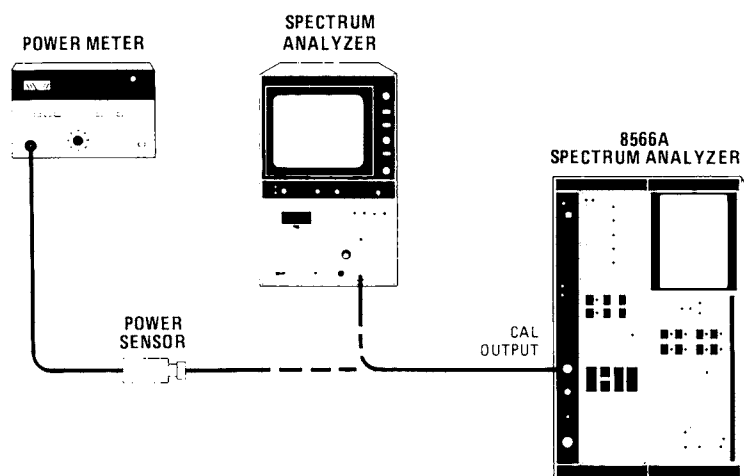
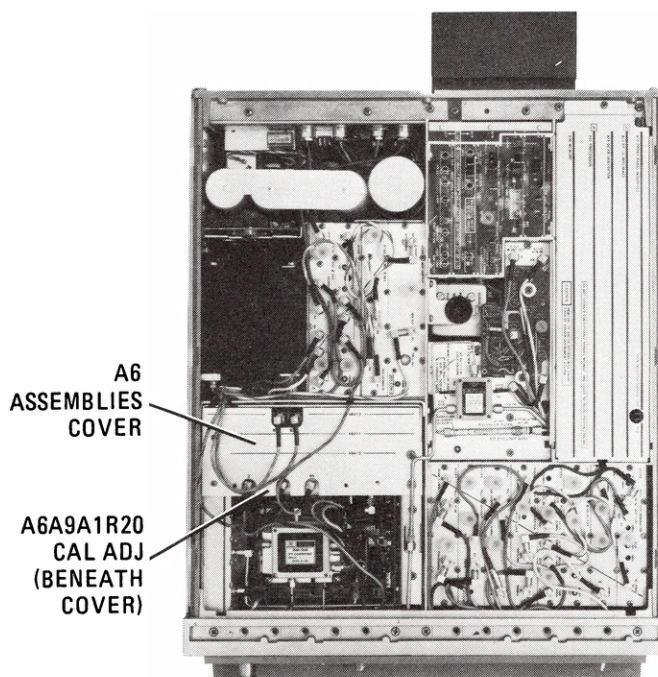

Figure 5-60. CAL OUTPUT Adjustment Setup
Figure 5-61. Location of CAL OUTPUT Adjustment
1. Place instrument on right side as shown in Figure 5-60 with bottom cover removed. Remove A6 assemblies cover. Refer to Figure 5-61.